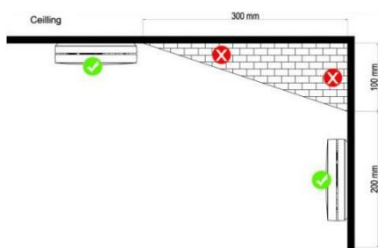

Figure 1
4. If the alarm can not be installed in the middle of the ceiling, install it keeping 300mm away from the corners . (see the figure 1).